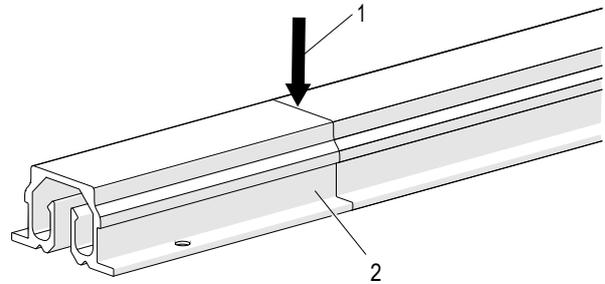
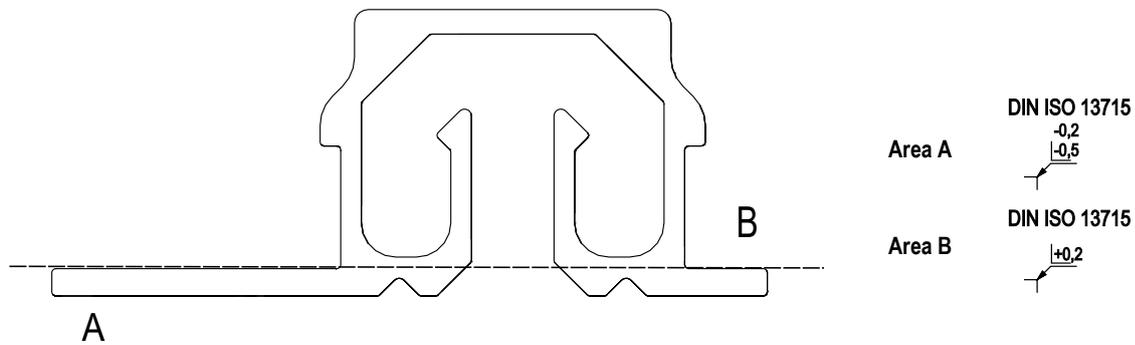

Fig. 98: Shorten ProfiDAT®compact rail (without positioning strip)
Fig. 99: Deburr ProfiDAT®compact rail
- Drill an elongated hole (\varnothing 21 mm) for the PE bolt into the support structure (substructure), through which the spacer can be guided (see Fig. 98 and Fig. 99). The dimensions of the elongated hole depend on the air gap set in the expansion unit (see Section 6.4.4.2). In addition, the spacer must be able to move freely in the elongated hole.
- The cutting direction (1) must be from the closed rail side.
- Deburr all edges in Area A and Area B according to DIN ISO 13715 (Fig. 99).